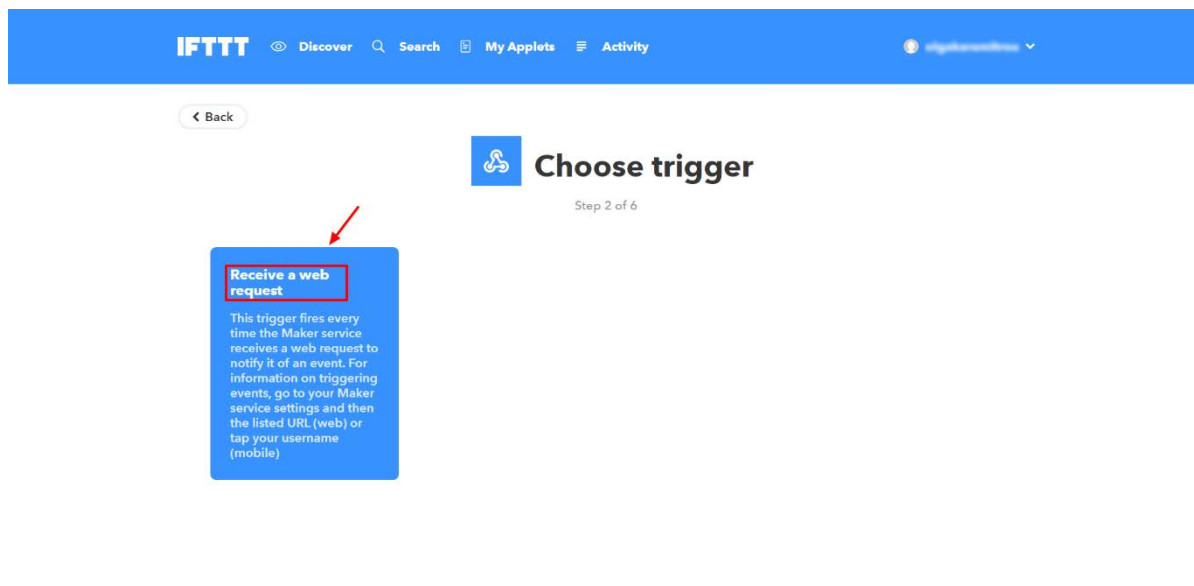

Figure 77: Make an IFTTT Applet Step 2
5. On the 'Choose Trigger' screen, click on "Receive a web request" (Figure 77).